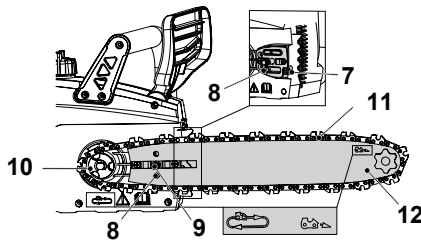

Fig. 3
4. Align the saw chain (11) and guide bar (12) assembly with the drive sprocket (10) and the mounting bolt (9). Lay the saw chain (11) around the drive sprocket (10) and then lower the guide bar (12) to install it to the mounting bolt (9) (Fig. 3).
5. Make sure the tension pin (8) is inserted into the lower hole on the guide bar (12). Screwing the tension screw (7) in to adjust the tension pin (8) to the end of slot with one suitable screwdriver.